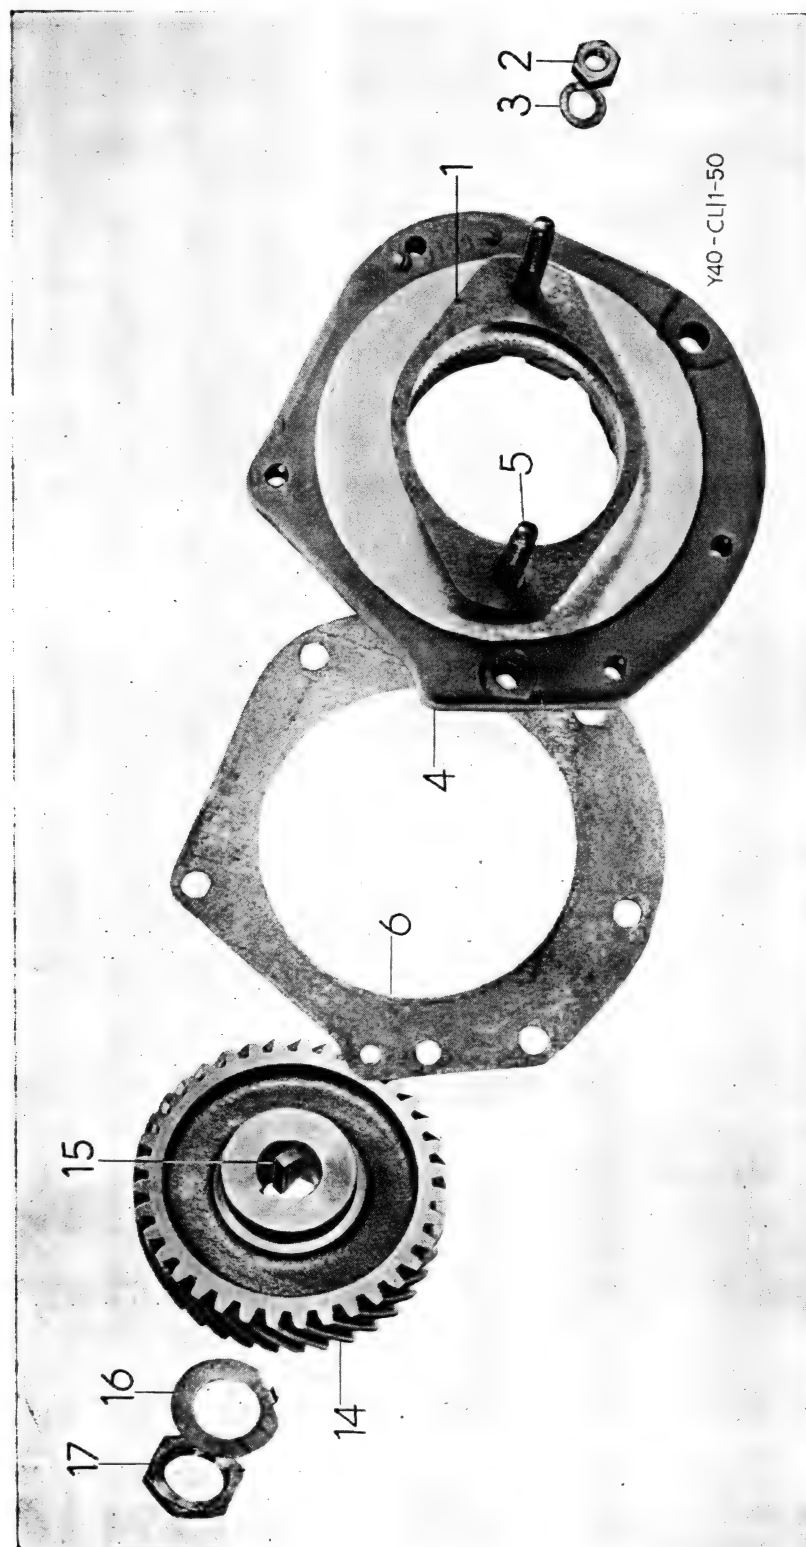

Figure 12 — Accessory Drive Gear, Hydraulic Pump Adaptor and Parts
**ACCESSORY DRIVE GEAR, HYDRAULIC PUMP ADAPTOR AND PARTS (Fig. 12)**